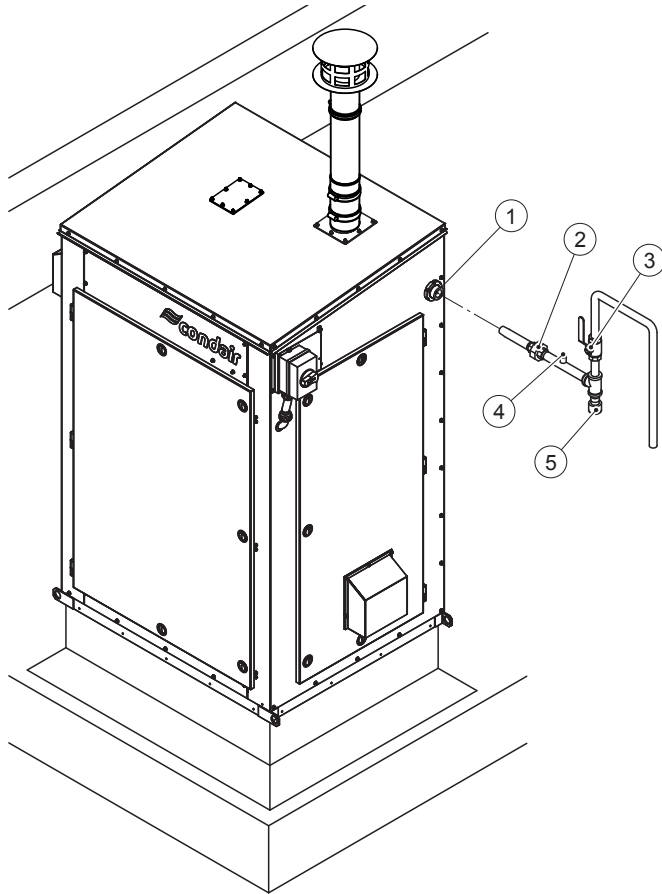

Fig. 15: Overview Gas installation
The gas supply installation must be carried out in accordance with Fig. 15 on page 46 and the applicable national and local codes for gas supply installations. In addition, the following requirements must be satisfied:
- A certified manual gas shut-off valve (see item 3 in Fig. 15 on page 46) must be installed immediately upstream from the humidifier. A thermally actuated gas shut-off device may also be installed upstream from the humidifier. Install such a device following all local codes and regulations.